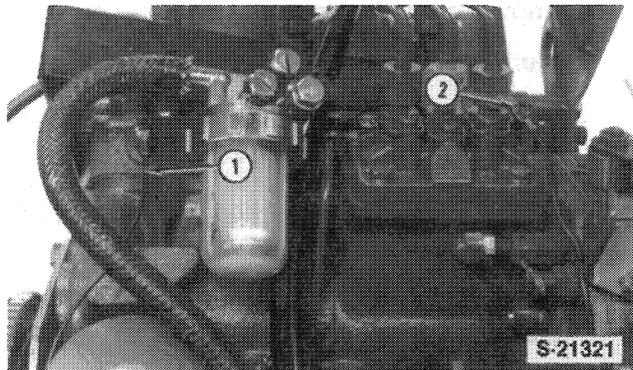

FIGURE 1-11
11. Disconnect the glow plug terminal wire, 1, Figure 1-11.
12. Disconnect the engine oil pressure sensor switch wire, 2, Figure 1-11.